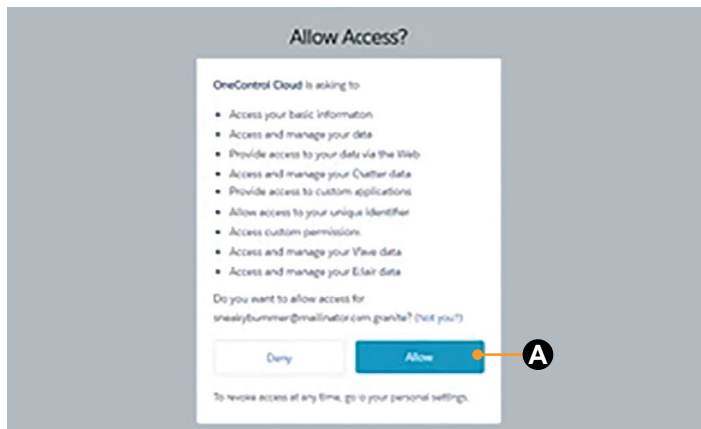

Fig.34
4. A pop-up window (Fig.34) will appear asking for permission to access the OneControl Cloud on the ConnectAnywhere system.